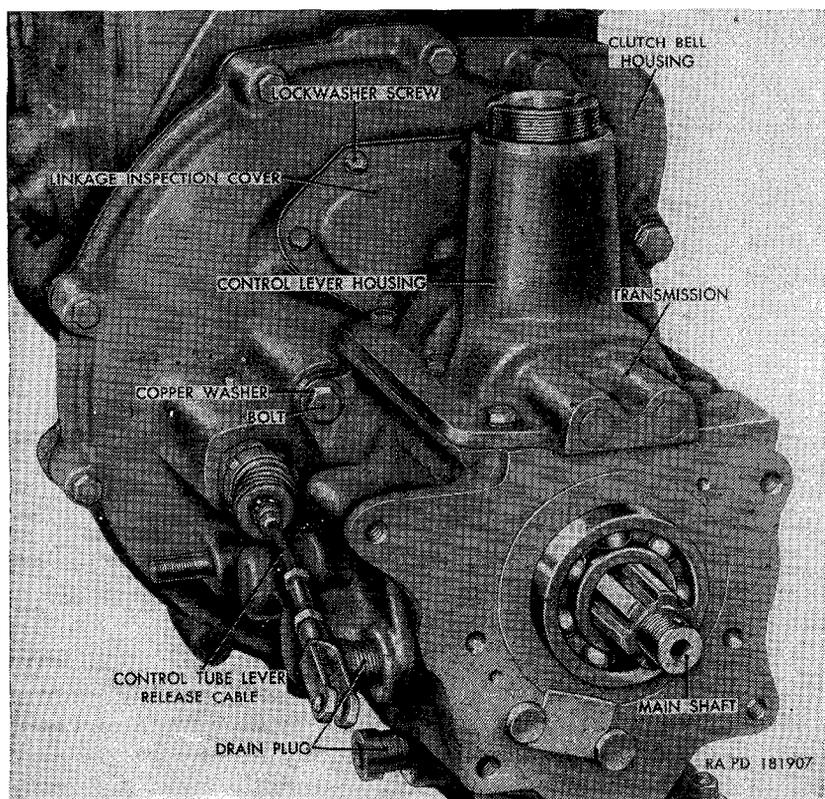
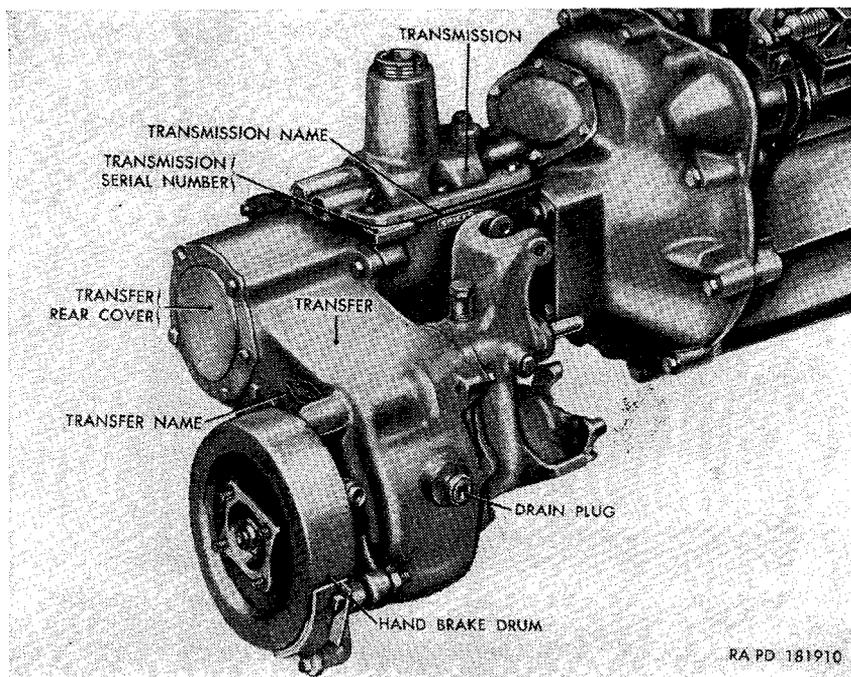

Figure 123. Transmission rear view, transfer removed—power plant removed from vehicle.
Figure 126. Transfer and transmission assemblies installed on engine—power plant removed from vehicle.
a. *Description.* The transmission (fig. 123) is a synchro-mesh, selective-gear-type, with three forward speeds and one reverse. Speed selection is accomplished manually by manipulating the transmission gear shift lever. The lever extends out of the top of the control lever housing into the driver's compartment of the vehicle.
- c. Remove six lockwasher screws securing the linkage inspection covers (fig. 123) to the top of the clutch bell housing. Remove the cover and gasket. Working through the inspection hole, disconnect the control tube lever release cable from the end of the release fork. Disengage the fork from the release bearing carrier and lift the fork out of the clutch compartment. Discard gasket.
- d. While supporting the transmission, remove the four bolts and copper washers (fig. 123) securing the transmission to the clutch bell housing. Pull the transmission straight back until the transmission input shaft is clear of the bell housing.
transmission to the clutch bell housing with four $\frac{7}{16}$ -inch copper washers and $\frac{7}{16} \times 1\frac{1}{4}$ bolts (fig. 123). Tighten the bolts evenly.
e. Working through the inspection hole in the top of the bell housing, install the release fork so the fork recess engages the bearing cover ball stud, and with the two large ends of the fork behind the release bearing carrier flanges. Engage the control tube lever release cable ball behind the two projections at the small end of the fork. Coat a new linkage inspection cover gasket with plastic-type liquid cement. Place the gasket and the inspection cover in position on top of the clutch ball housing (fig. 123). Secure cover and gasket to bell housing with six $\frac{1}{4} \times \frac{1}{2}$ lockwasher screws.
a. Description. The transfer is an auxiliary, two-speed gear unit, attached to the rear of the transmission. The transfer transmits power from the transmission to the front and rear differentials through propeller shafts. By manipulation of two transfer gearshift levers (T, fig. 11), additional high and low speed ranges can be selected, and power to the front axle can be connected or disconnected. The hand brake drum (fig. 126) and shoes are mounted on the rear of the transfer. A cover at the rear of the transfer provides access to the interior of the assembly when installing a power takeoff.
- b.* Remove the drain plugs from the transmission (fig. 123) and transfer (fig. 126) and permit the lubricant to drain. After draining completely, install the drain plugs.
- c.* Remove five bolts and external-teeth lockwashers securing the transfer rear cover (fig. 126) to the transfer case. Remove the cover and rear cover gasket. Discard gasket.
e. Coat a new rear cover gasket with plastic type gasket cement and position gasket and transfer rear cover (fig. 126) on the rear of the transfer case. Secure the cover to the case with five $\frac{3}{8}$ -inch external-teeth lockwashers and five $\frac{3}{8}$ x $\frac{3}{4}$ bolts.